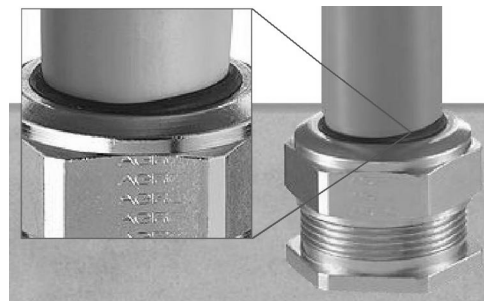

Figure 7: Gland tightening
- 4 Screw the cap nut onto reader part until the seal insert is pushed out of the gland. See Figure 7.